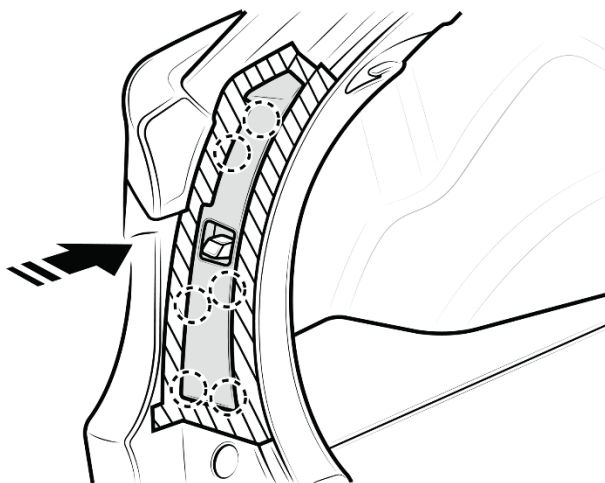

Fig 19-1
- (a) Re-engage the claws to install LH cover.(Fig.19-1)